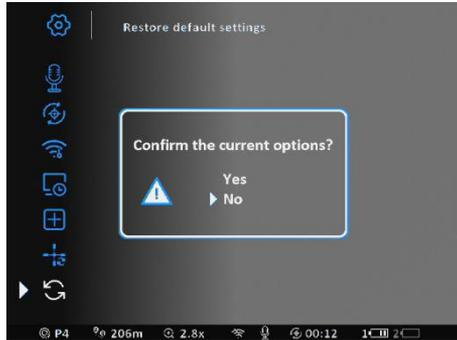

Figure 34 Factory Settings Confirmation Interface
G) Restore Factory Settings: If you confirm the restoration of factory settings, the interface shown in Figure 34 will appear.